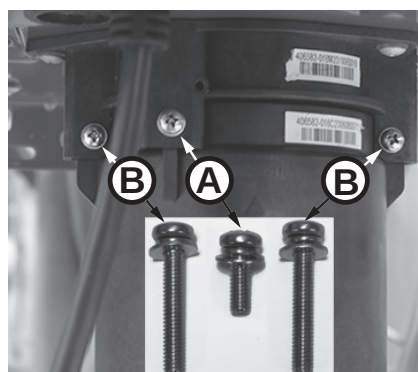

Figure 210 - Identify cartridge screws
- 6 Locate the three (3) screws securing the X3®/Bypass cartridge as shown in Figure 210. Remove the (A) M4-12mm screw and the two (B) M4-25mm screws from cartridge. Place screws aside in a safe place for reinstallation.